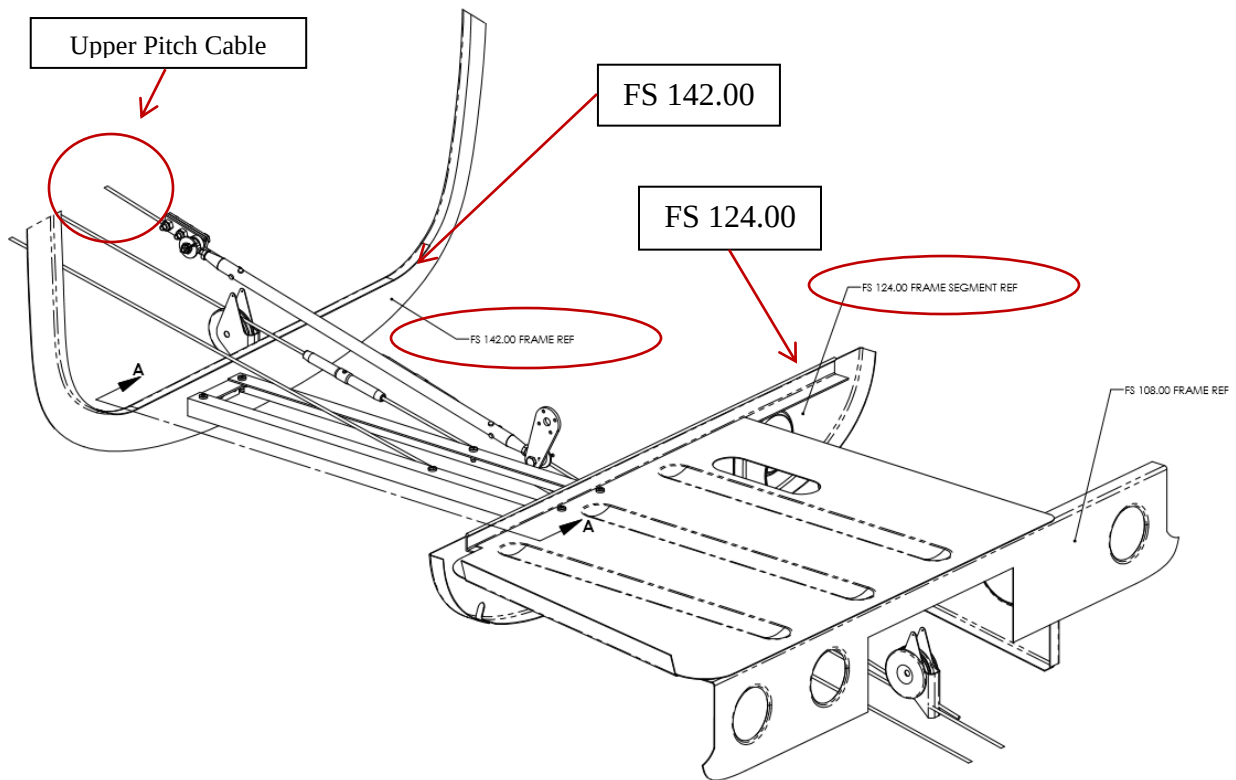

FIGURE 3-1 PITCH SERVO INSTALLATION DIAGRAM
6. Locate upper pitch cable at FS 124.00 and mark rear of shelf FS 124.00 and bulkhead at FS 142.00 with the location of the cable. Refer to Figures 3-1, 3-2, and 3-3.